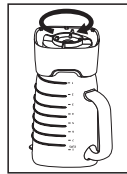

Fig. 5
5. Screw on the black threaded bottom disc by turning it clockwise. (Fig. 5)